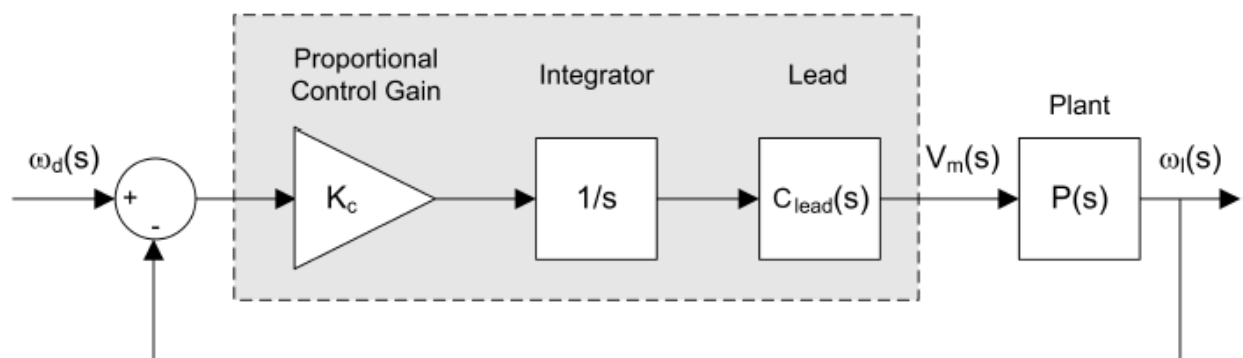
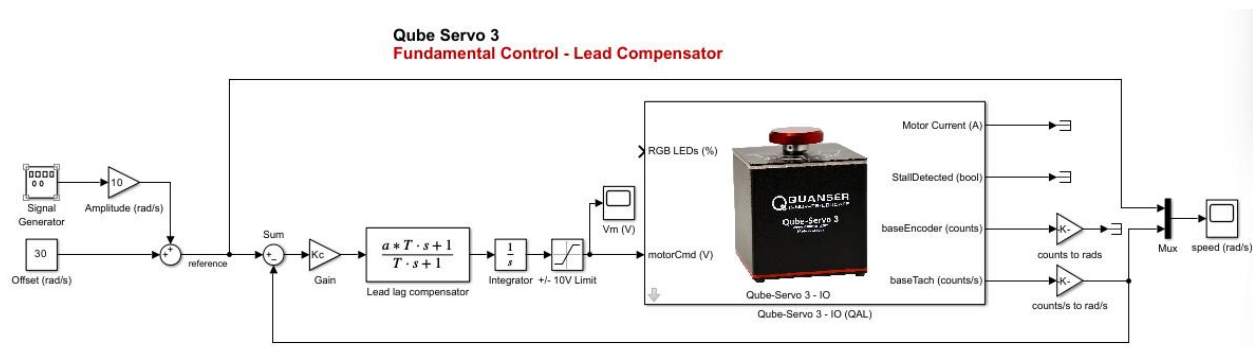

Figure 1: Lead compensator with integrator
Figure 2: Simulink implementation of lead compensator for Qube-Servo 3.
The classic lead compensator given above may not achieve zero steady-state error. To ensure we have zero steady-state error, it is necessary to include an integrator in the controller and so we will use a controller of the form of Figure 1:
The Simulink model shown in Figure 2 implements the lead compensator designed in the previous section for testing on the physical Qube-Servo 3. You will observe that Figure 2 implements the scheme shown in Figure 1.
16. Open the qs3_lead.slx Simulink model, design the Simulink model to be like Figure 2 by inserting and connecting the relevant blocks as in Figure 2.
20. Take a screenshot of Speed (rad/s) and V_m (V) scopes. A sample response using $K_c = 1$ is shown in 3 below: